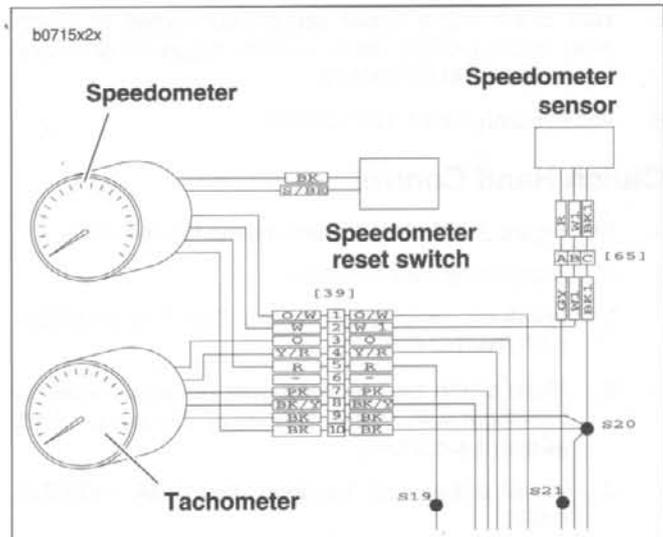

Figure 2-136. Instrument Support Wiring
- a. Apply LOCTITE THREADLOCKER 243 (blue) to both screws (6).
3. Install ignition key switch face nut (3). See 7.3 IGNITION/HEADLAMP KEY SWITCH.
4. Install indicator lights (5).
- b. See Figure 2-136. Align wire colors on indicator light housing with correct symbols on graphics panel.